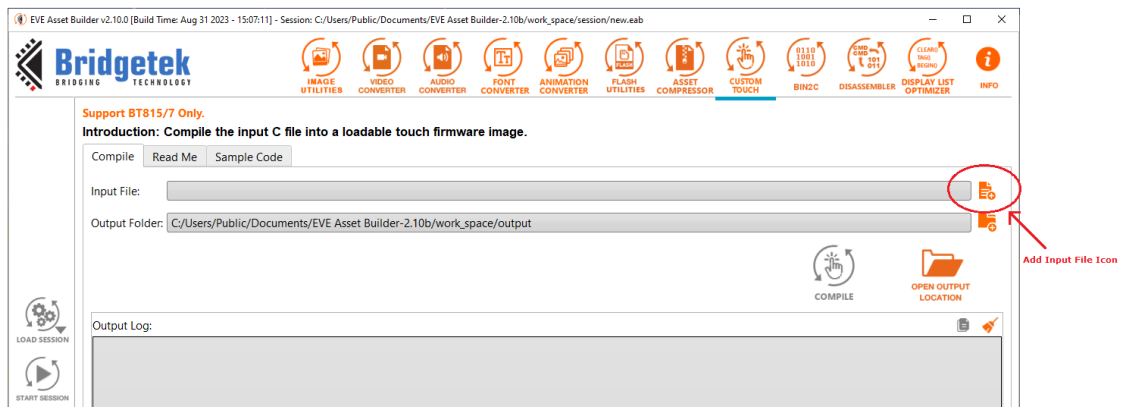

Figure 3 - EVE Asset Builder – Add Input File
- Click on the Add input file icon to add the C file of your custom touch source code as shown in Figure 3.